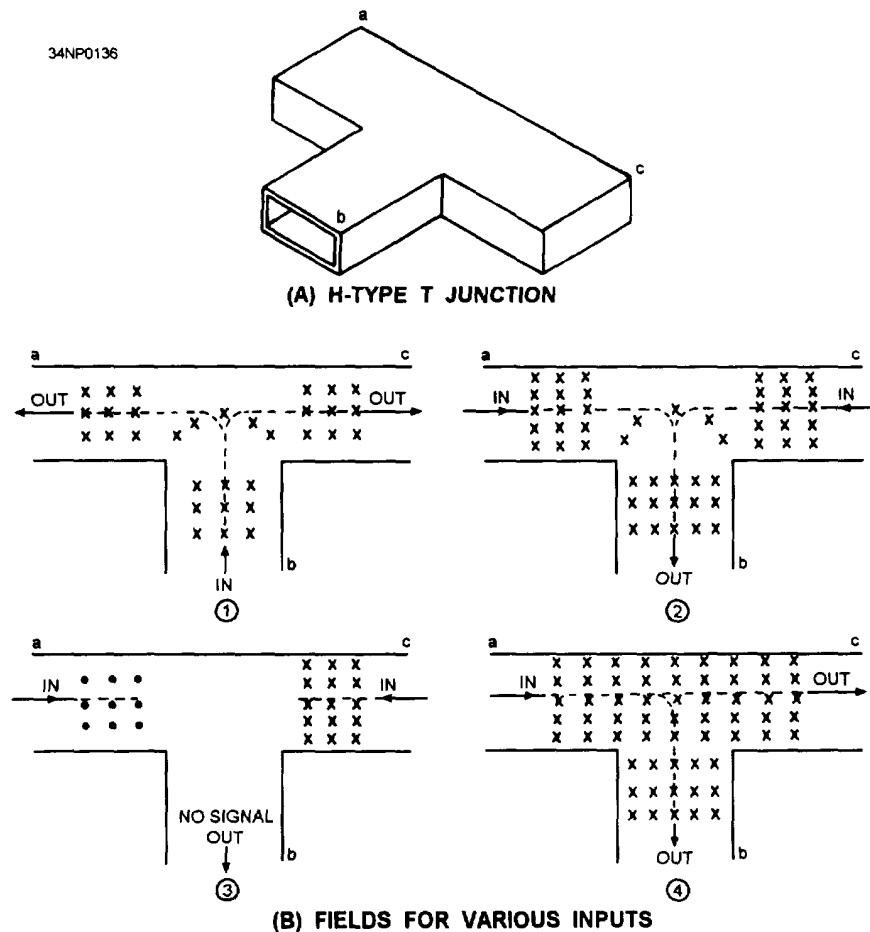

Figure 3-63.—E field in an H-type T junction.
**H-TYPE T JUNCTION.**—An H-type T junction is illustrated in figure 3-63, view A. It is called an H-type T junction because the long axis of the “b” arm is parallel to the plane of the magnetic lines of force in the waveguide. Again, for simplicity, only the E lines are shown in this figure. Each X indicates an E line moving away from the observer. Each dot indicates an E line moving toward the observer.
In view 1 of figure 3-63, view B, the signal is fed into arm b and in-phase outputs are obtained from the a and c arms. In view 2, in-phase signals are fed into arms a and c and the output signal is obtained from the b arm because the fields add at the junction and induce E lines into the b arm. If 180-degree-out-of-phase signals are fed into arms a and c, as shown in view 3, no output is obtained from the b arm because the opposing fields cancel at the junction. If a signal is fed into the a arm, as shown in view 4, outputs will be obtained from the b and c arms. The reverse is also true. If a signal is fed into the c arm, outputs will be obtained from the a and b arms.